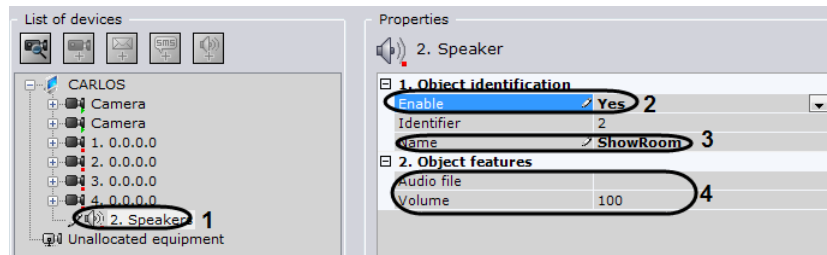

Fig. 6.4—30 Configuring a Speaker object
1. In the list of devices, highlight the **Speaker** object (Fig. 6.4—30, 1) which needs to be configured.
2. Activate the **Speaker** object (see Fig. 6.4—30, 2) by selecting **Yes** in the **Enable** list.